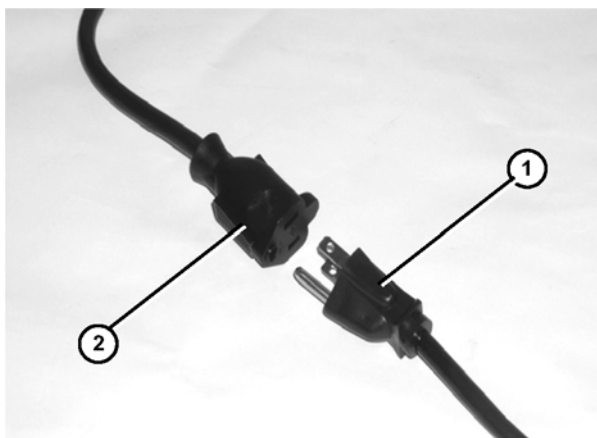

Figure 13
1. Connect device, 120 Volt motor or controller power cord (**Figure 13, item 1**) into emergency stop receptacle cord (**Figure 13, item 2**).